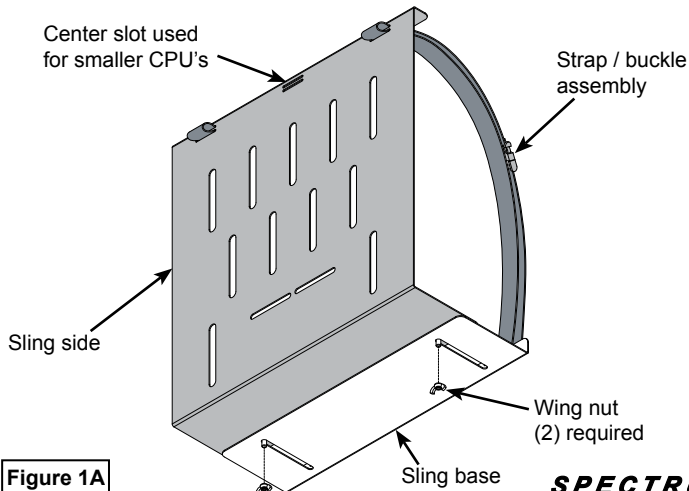

Figure 1A
1. Assemble the sling side and base using (2) 1/4-20 wing nuts as shown in **Figure 1A**.